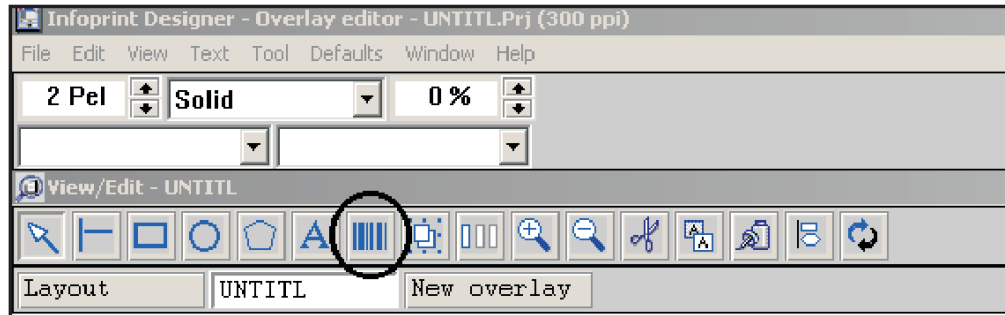

Figure 42. The Bar Code Tool Button
1. From the project window, click the bar code tool on the toolbar. The bar code tool is circled in Figure 42 on page 117.